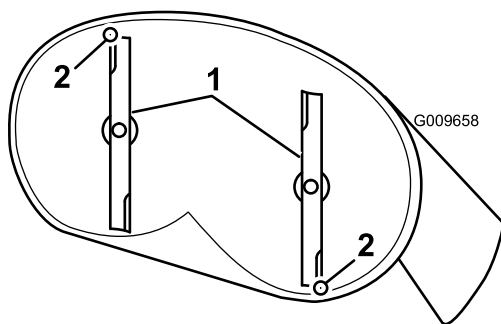
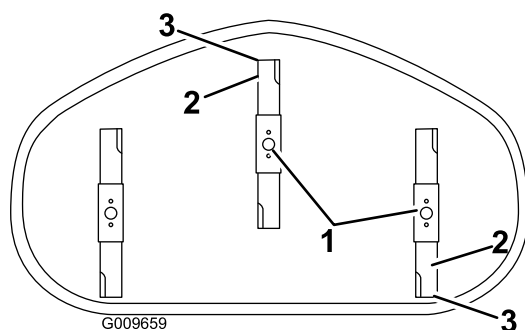

Figure 56
Figure 57
- Carefully rotate the blades so they are facing front to rear (Figure 56 and Figure 57).
8. After adjustment, check the front-to-rear slope again. Continue adjusting the nut until the front blade tip is 1/16-5/16 inch (1.6-7.9 mm) lower than the rear blade tip (Figure 56 and Figure 57).